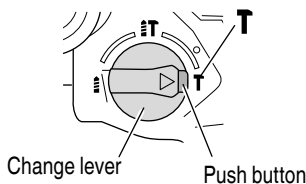

Fig. 19
This rotary hammer can be set to hammering only mode by pressing the push button and turning the change lever to the 'T' mark (Fig. 19).
- (3) Turn the change lever to 'T' mark (Fig. 19). Then bull point or cold chisel is locked.